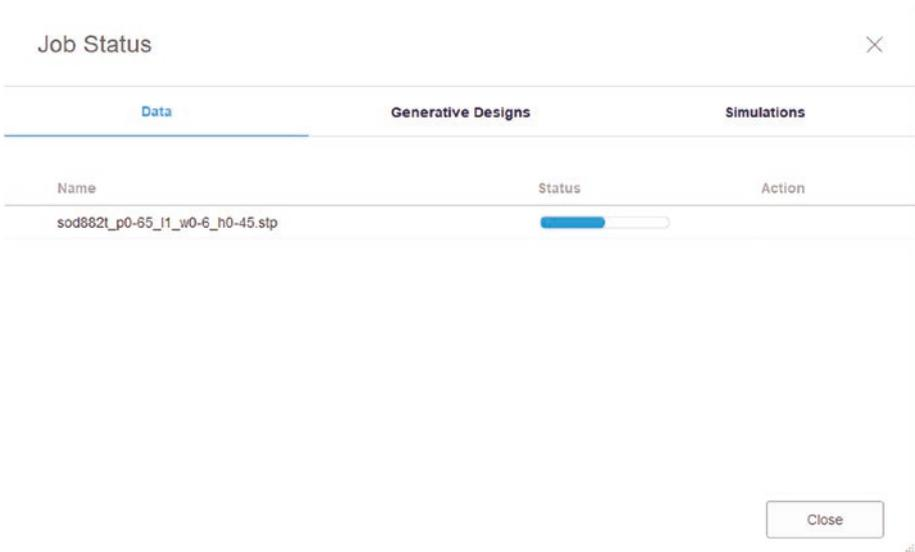

Figure 3-24. When finished, click the Close button
6. Click the Upload button, and you will see this screen which will tell you the progress of your import. When the STEP file is finished, click the “Close” button. See Figure 3-24.